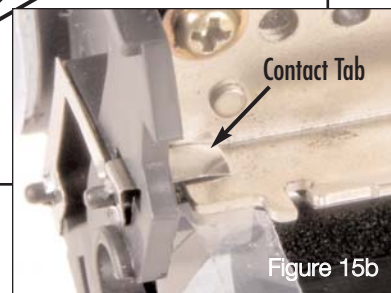

Figure 15b
**Note:** Ensure the doctor blade is positioned under the metal contact tab on the contact side. See Figure 15b.